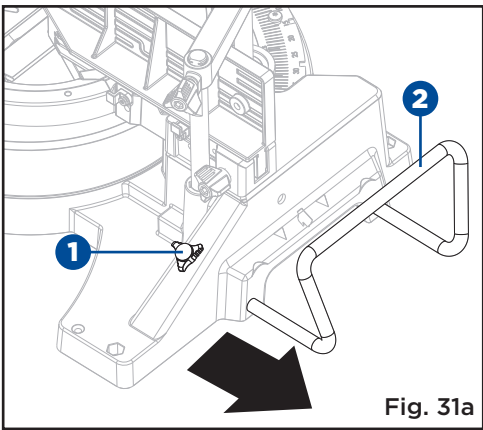

Fig. 31a
**SOUTENIR DE LONGUES PIÈCES (FIG. 31a-31b)**